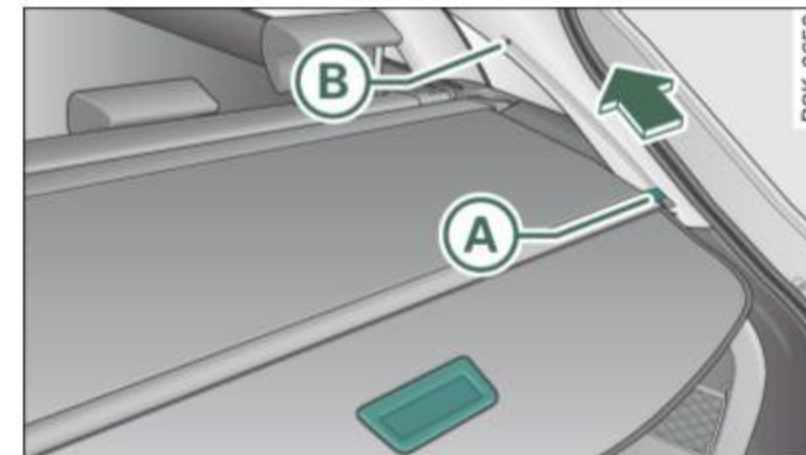

Fig. 80 Open luggage compartment lid with attached cover in position **A**
The luggage compartment cover can be attached in two positions: Convenience position **(B)** or position **(A)** ⇒ *page 79*, fig. 80. In position **(B)** the cover does not need to be removed to unload the luggage compartment.
- Insert the ends of the crossbrace from below into the openings on the left and right ⇒ *page 79*, fig. 80 **(A)** in the trim panels.